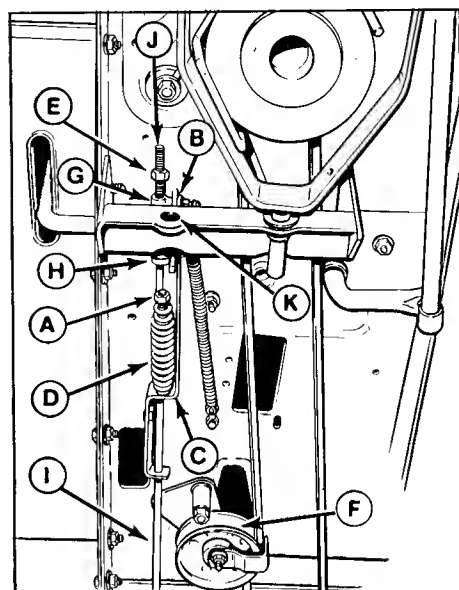

Figure 32. Brake-Clutch Adjustment
- Place the transmission in gear and release the parking brake. Move the brake rod (I, figure 32) back and forth to be sure there is no tension on the brake pads.
- Loosen the locking nut (C). Tighten the adjusting nut (D) to decrease gap or loosen nut to increase gap. Recheck the measurement. When correct, tighten locking nut against adjusting nut.
The clutch-brake pedal must be in up position. With one hand, push rod guide (C, figure 32) as far forward as slot (B) will allow while pulling rod (I) back with other hand. With rod guide in this position, tighten or loosen nut (A) until 1/4 inch of clearance is obtained between nut and end of spring (D).
- With the pedal up, push the idler pulley (F, figure 32) firmly against the belt. With the pulley in this position, the gap between nut (E) and the rod guide (G) should be 7/8 to 1 inch (22 to 25 mm). If not, tighten nut (E) to decrease gap or loosen nut to increase gap. Recheck measurement.
- Depress and lock the clutch-brake pedal. Loosen the setscrew in the set collar (H). Move the collar against the spring which is located between collar (H) and rod guide (G). Be sure spring is seated as far as possible over rod guide (G). Tighten the setscrew; the spring should be free to